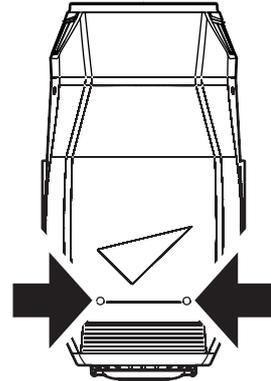

Figure 20: Head cover screws
2. Remove both head covers by loosening their quarter-turn retaining screws (see Figure 20).
3. Remove the two retaining screws (see Figure 20) from the top cover and lift it away from the head. Let the cover hang on its safety wire or unclip the safety wire and remove the cover completely.